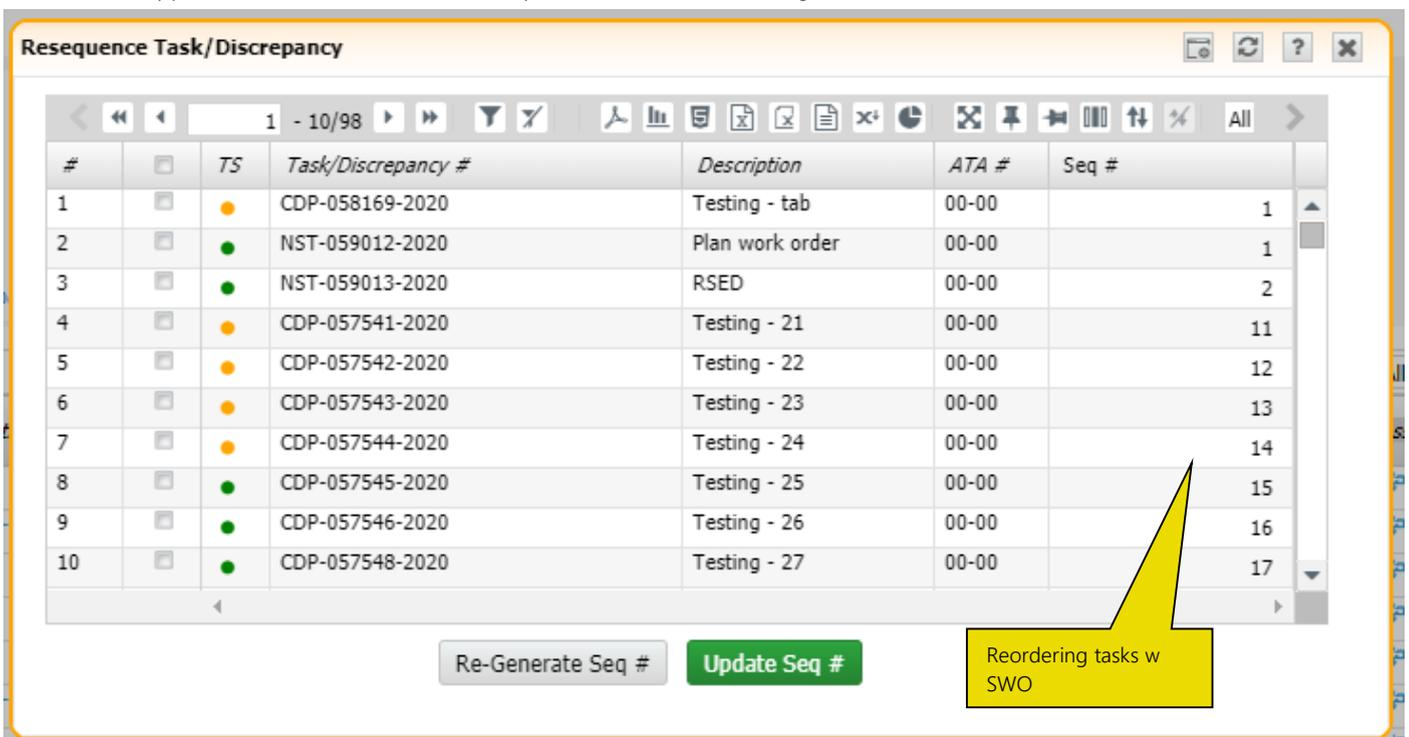

Figure 2.12: Reordering seq # for tasks
1. Click the **Resequence** pushbutton in the **Shop Quick Actions Hub** page. The **Resequence Task/Discrepancy** pop-up appears with all the tasks and discrepancies in the SWO. See *Figure 2.12*.